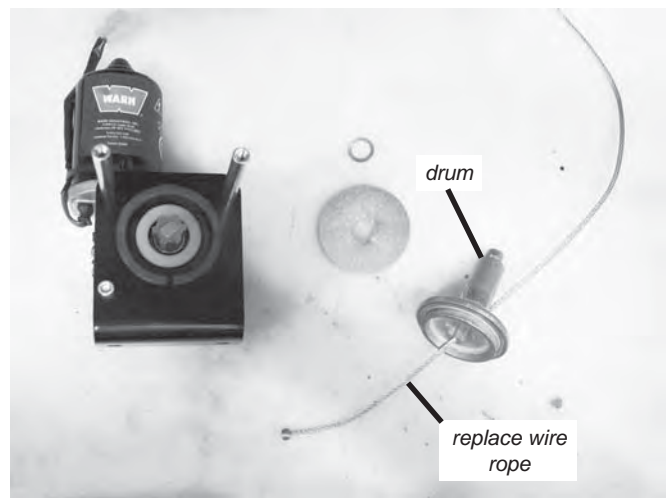

Figure 2 Replace Wire Rope in Drum
- 2 Pull the the drum off the assembly and remove the wire rope shown in figure 2